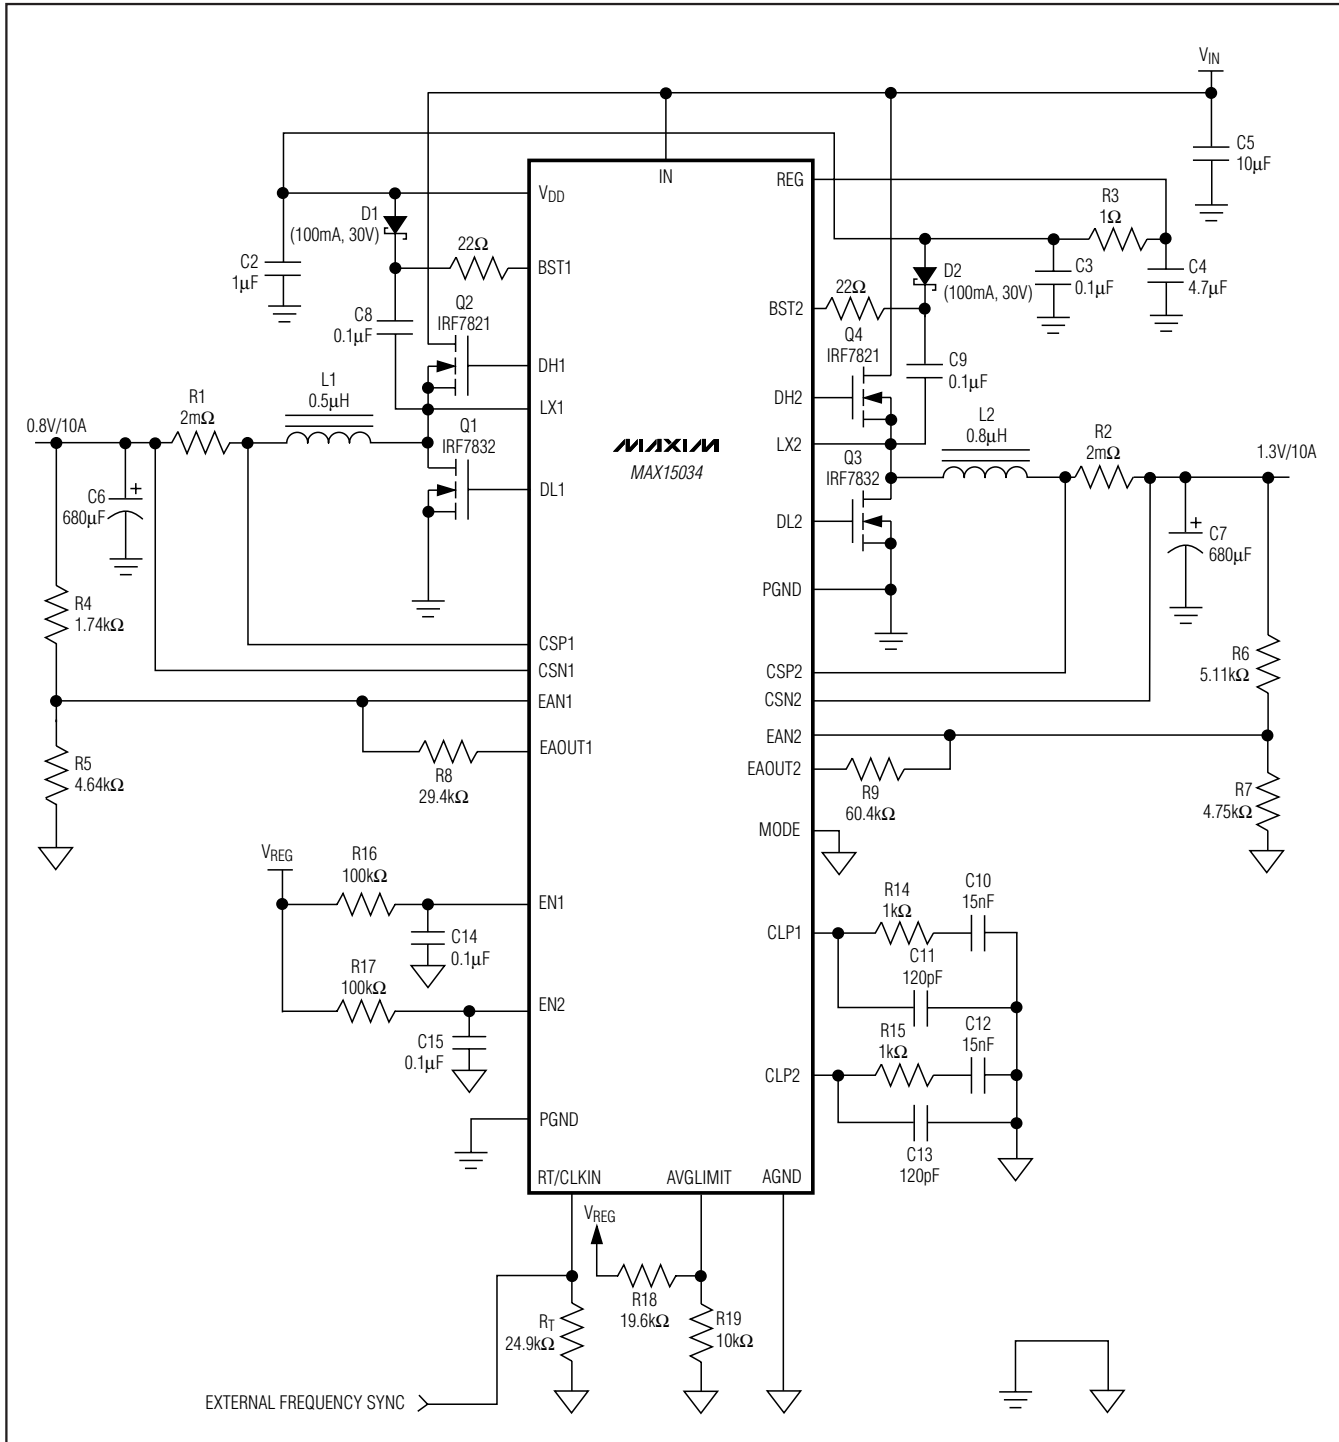
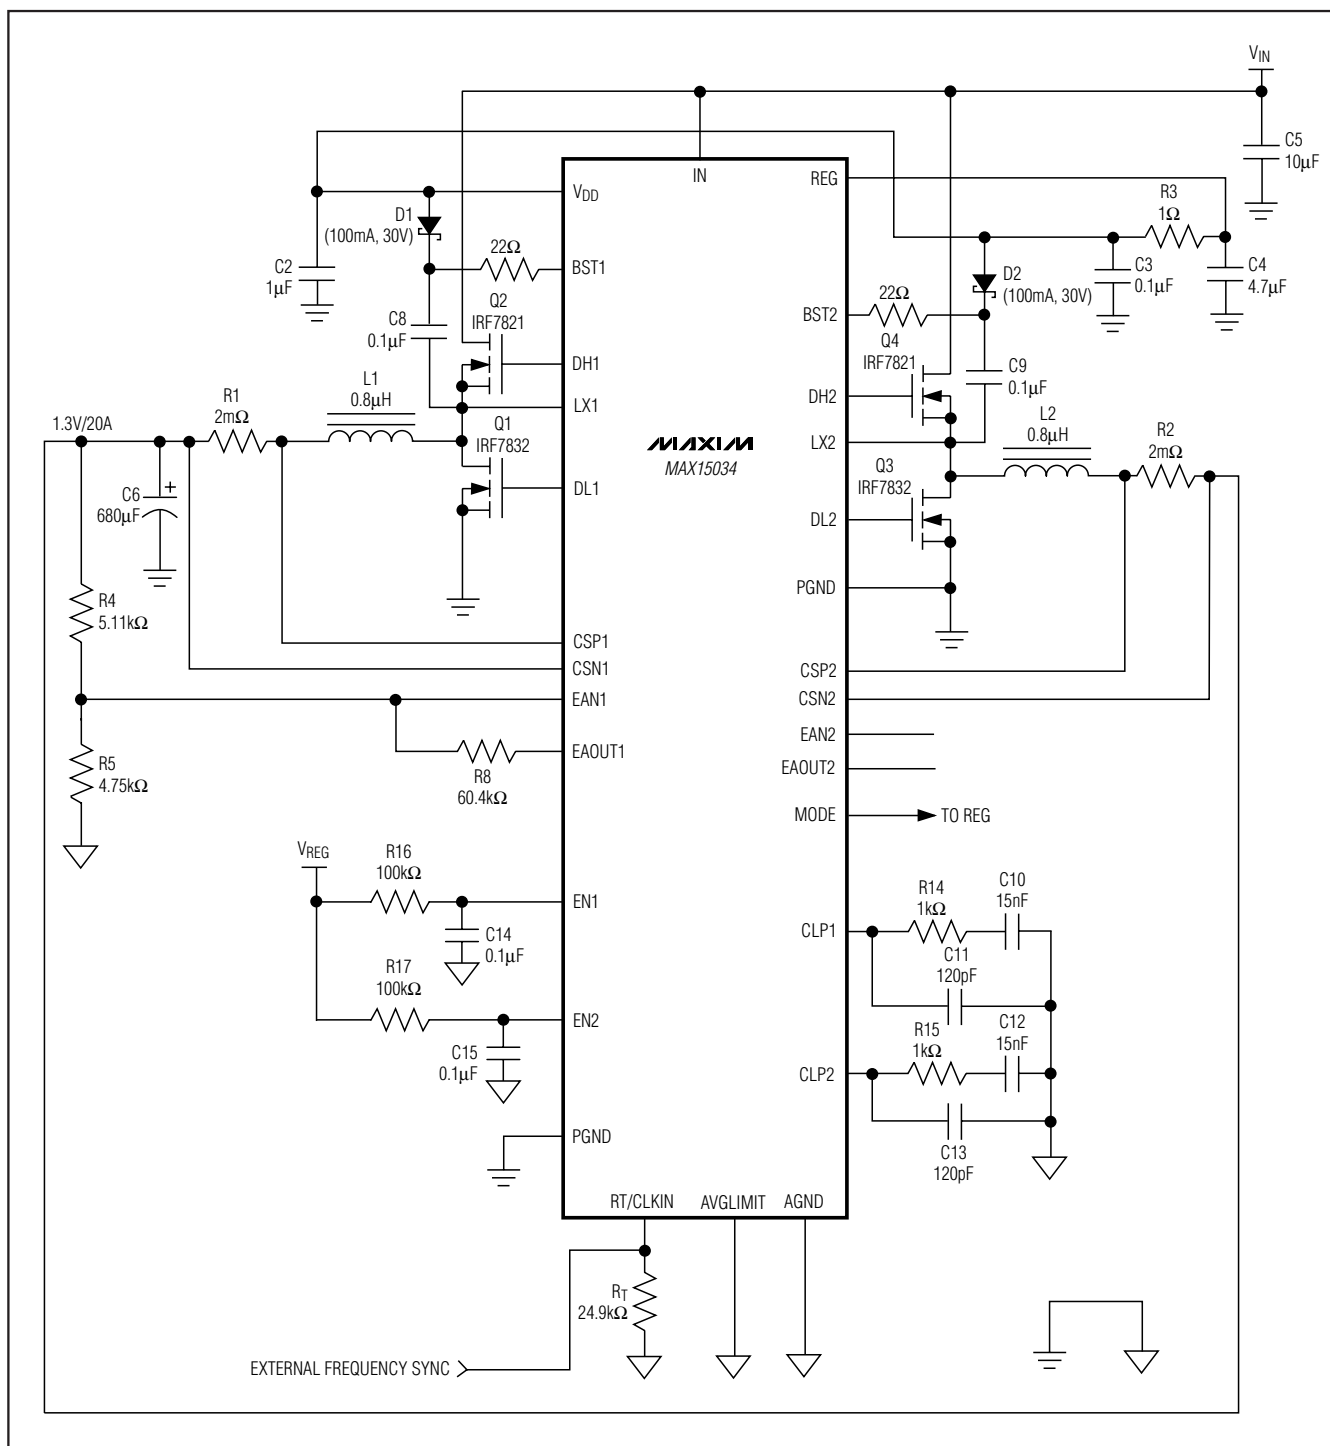

Figure 6. Dual-Output Buck Regulator
Figure 7. Dual-Phase, Single-Output Buck Regulator
where IIN is the quiescent supply current into IN (4mA, typ), QGQ1, QGQ2, QGQ3, QGQ4 are the total gate charges of MOSFETs Q1 through Q4 at VGS = 5V (see Figure 6), and fSW is the switching frequency of each individual phase.
BST1 and BST2 supply the power for the high-side MOSFET drivers for output 1 and output 2, respectively. Connect BST1 and BST2 to VDD through rectifier diodes D1 and D2 (see Figure 6). Connect a 0.1μF ceramic capacitor between BST\_ and LX\_.
Minimize the trace inductance from BST\_ and VDD to the rectifier diodes, D1 and D2, and from BST\_ and LX\_ to the boost capacitors, C8 and C9 (see Figure 6). This is accomplished by using short, wide trace lengths.
The compensation network at the current-error amplifiers (CLP1 and CLP2) provides an inherent soft-start of the output voltage. It includes (R14 and C10) in parallel with C11 at CLP1 and (R15 and C12) in parallel with C13 at CLP2 (see Figure 6). The voltage at the current-error amplifier output limits the maximum current available to charge the output capacitors. The capacitor at CLP\_ in conjunction with the finite output-drive current of the current-error amplifier yields a finite rise time for the output current and thus, the output voltage.
An internal oscillator generates the 180° out-of-phase clock signals required for both PWM modulators. The oscillator also generates the 2Vp-p voltage ramps necessary for the PWM comparators. The oscillator frequency can be set from 200kHz to 2MHz by an external resistor (RT) connected from RT/CLKIN to AGND (see Figure 6). The equation below shows the relationship between RT and the switching frequency:
cycle is less than 50%, choose high-side MOSFETs (Q2 and Q4, Figure 6) with a moderate  $R_{DS(ON)}$  and a very low gate charge. Choose low-side MOSFETs (Q1 and Q3, Figure 6) with very low  $R_{DS(ON)}$  and moderate gate charge. The driver block also includes a logic circuit that provides an adaptive nonoverlap time (30ns typ) to prevent shoot-through currents during transition. Figure 7 shows the dual-phase, single-output buck regulator.
where  $I_{MAX}$  is the full load current of the regulator.  $V_{OUT}$  is the output voltage of the same regulator and  $C_{IN}$  is C5 in Figure 6. The ESR of the input capacitors wastes power from the input and heats up the capacitor. Reducing the ESR is important to maintain a high overall efficiency and in reducing the heating of the capacitors.
where  $I_{LOAD\_STEP}$  is the step in load current and  $t_{RESPONSE}$  is the response time of the controller. Controller response time depends on the control-loop bandwidth.  $C_{OUT}$  is C6 and C7 in Figure 6.
where  $\Delta V_{OUT}$  is the allowable drop in voltage from no load to full load.  $R_F$  is  $R_8$  and  $R_9$ ,  $R_1$  is  $R_4$  and  $R_6$ ,  $R_2$  is  $R_5$  and  $R_7$  in Figure 6.